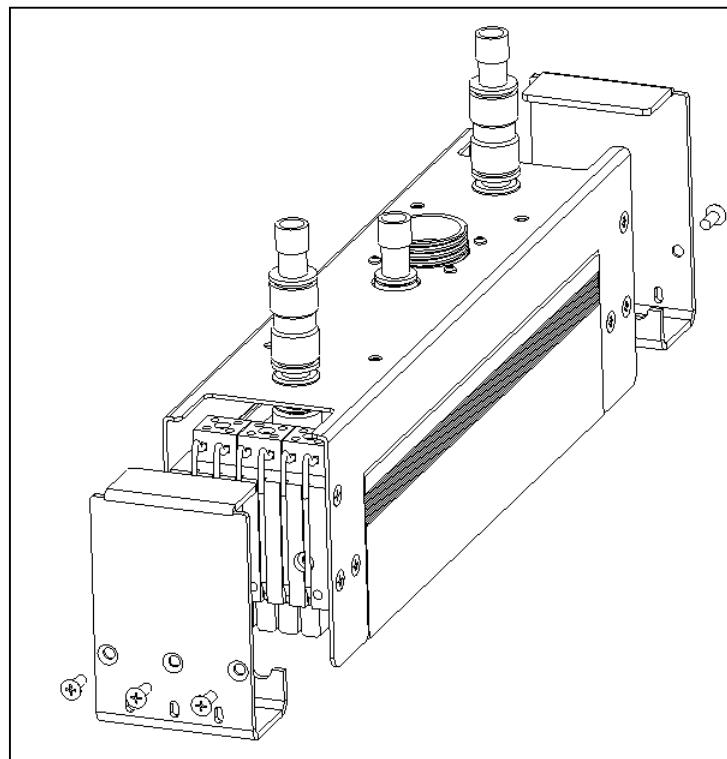

Figure 4-1
*Note: Fitting plugs are placed into the two water coolant fittings as shipped from the factory. Both of these plugs must be removed from their respective fittings prior to inserting the flexible tubing. These plugs can either be kept for future use or discarded. See Figure 4-1 for detail.*